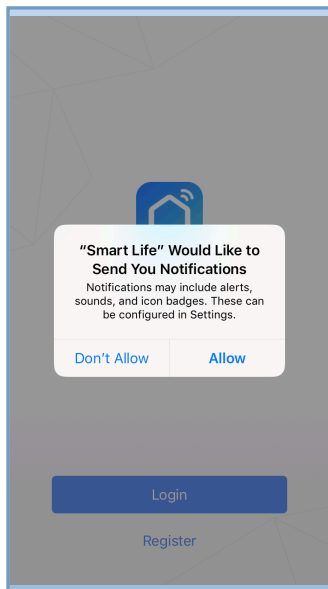

fig 2.1
- Open “**SMART LIFE**” application, click “Allow” on the pop up notification dialog(fig 2.1)